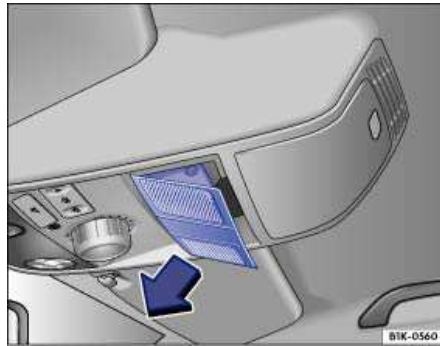

Fig. 200 In headliner: Removing cover.
- Remove the cover in direction of the arrow ⇒ fig. 200.